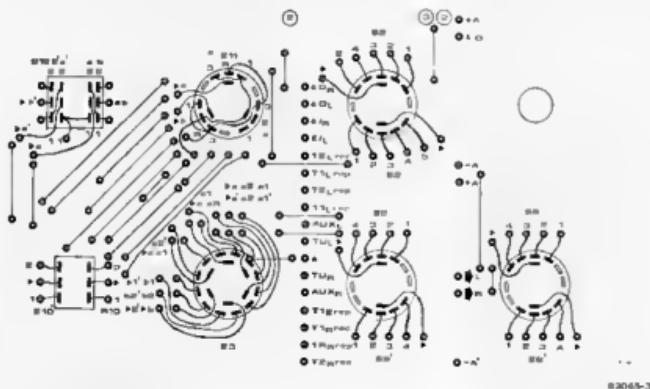

Figure 3. A section of the component side of the bus board illustrating the wiring of some of the switches.
1. The wiring data for a number of switches situated on the bus board (see March issue) are not always clear. That is why this particular section of the component side of the bus board is repeated here (see Figure 3). After wiring S3 and S11 use an ohmmeter to check that they are switching properly.
2. The bus board contains 3 wire links which cross the connection board (see Figure 3). Connect these (insulated) wire links to the copper side of the bus board.